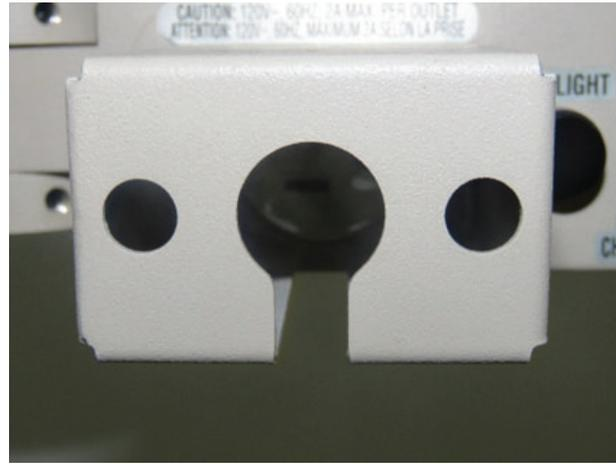

FIGURE 10
4.1.2. Remove the 2 screws that holds the Outlet and Slit Lamp Arm Cover by inserting the screwdriver through the hole. For a visual guide use the cutout located on the top of the Cover. (See Figure 10) (Set these screws to the side also)